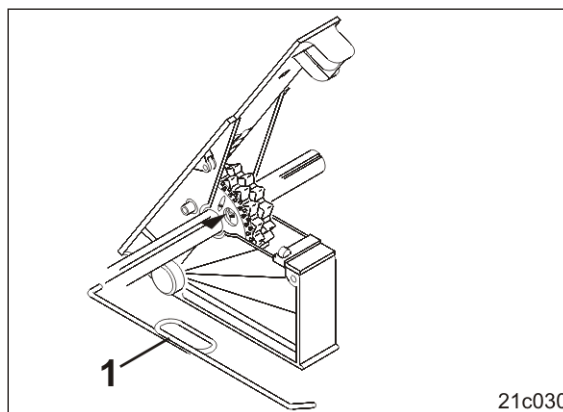

Fig. 140
1. Use the supplied key (Fig. 140/1) to press the pin into the normal seed metering wheel behind the hole until it reaches the stop.